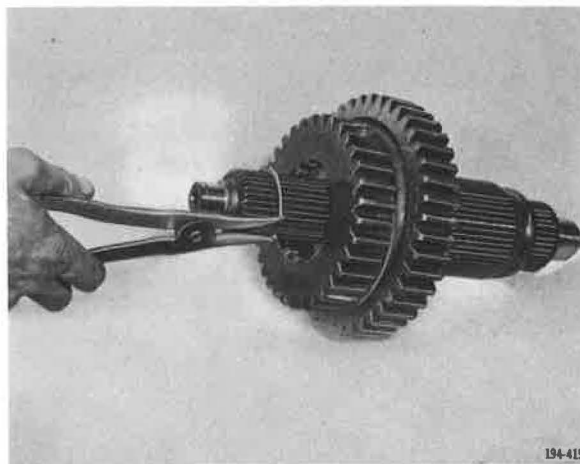

Figure 5-956. Installing Snap Ring
17. Install fourth speed gear retaining snap ring, using snap ring pliers J-29045 or equivalent. See **Figure 5-956**.